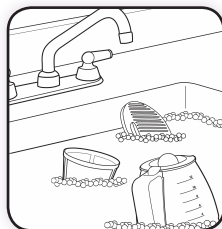

Figure 1
- 1 Wash the Carafe, Carafe lid, Removable Splash Guard, Reusable Filter (if included) and the Removable Filter Basket in a mixture of mild detergent and water. (Figure 1) Rinse each part and the Water Filtration Frame and Disk (if included) in water thoroughly. (Refer to the PARTS DIAGRAM section)